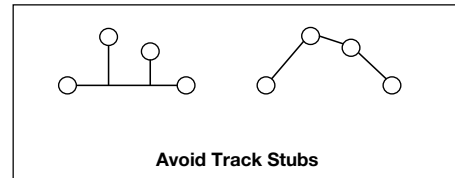

Fig. 2
- Avoid track stubs, as they cause reflections and harmonics (Fig. 2)